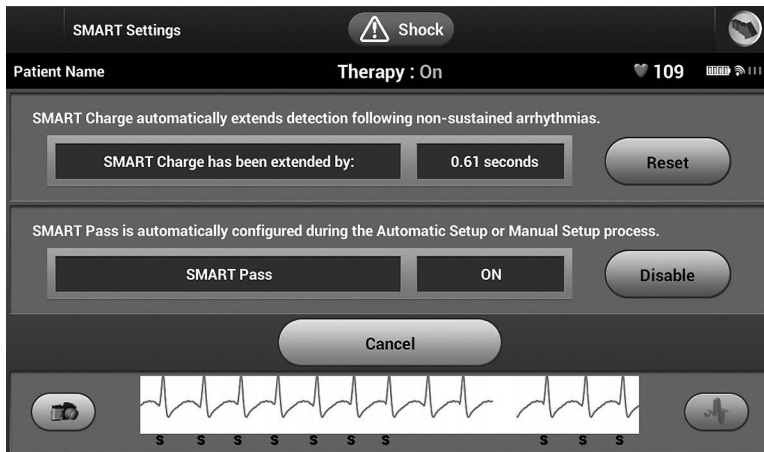

Figure 22: SMART Settings screen
1. From the Utilities screen (accessible from the Main Menu screen), select the SMART Settings button. The SMART Settings screen appears (Figure 22).